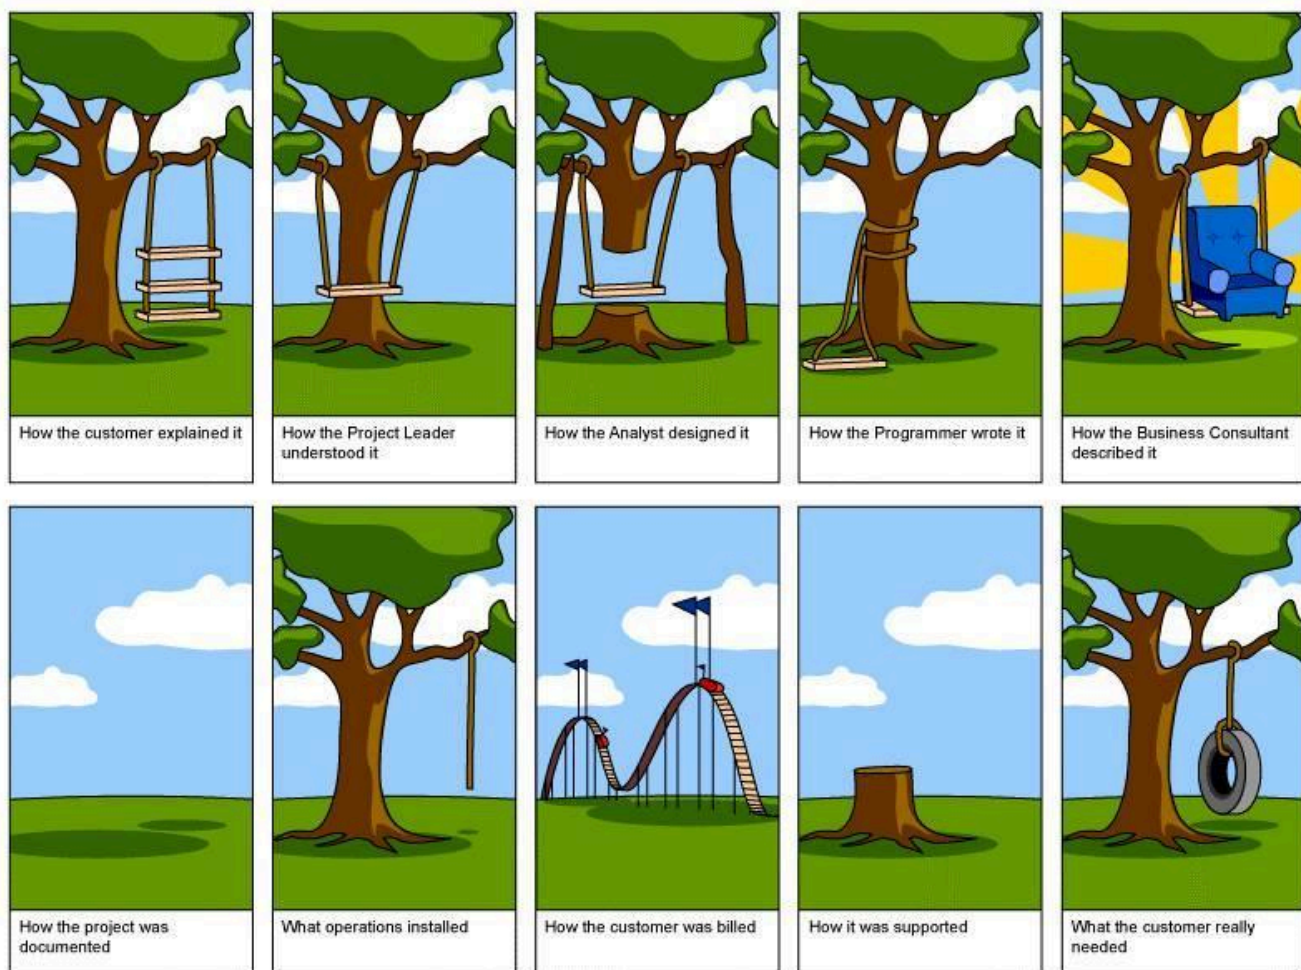

Figure 6.1: Project Management
create a lot of immediate activity, but it also creates significant chances for waste and mistakes if the wrong need is addressed. One of the best ways to gain approval for a project is to clearly identify the project's objectives and describe the need or opportunity for which the project will provide a solution. For most of us, being misunderstood is a common occurrence, something that happens on a daily basis. At the restaurant, the waiter brings us our dinner and we note that the baked potato is filled with sour cream, even though we expressly requested "no sour cream." Projects are filled with misunderstandings between customers and project staff. What the customer ordered (or more accurately what they think they ordered) is often not what they get. The cliché is "I know that's what I said, but it's not what I meant." Figure 6.1 demonstrates the importance of establishing clear objectives.
1. Figure 6.1 Project Management by Andreas Cappell (<https://www.flickr.com/photos/cappellmeister/5921913/>) used under CC-BY-NC-SA (<https://creativecommons.org/licenses/by-nc-sa/2.0/>)